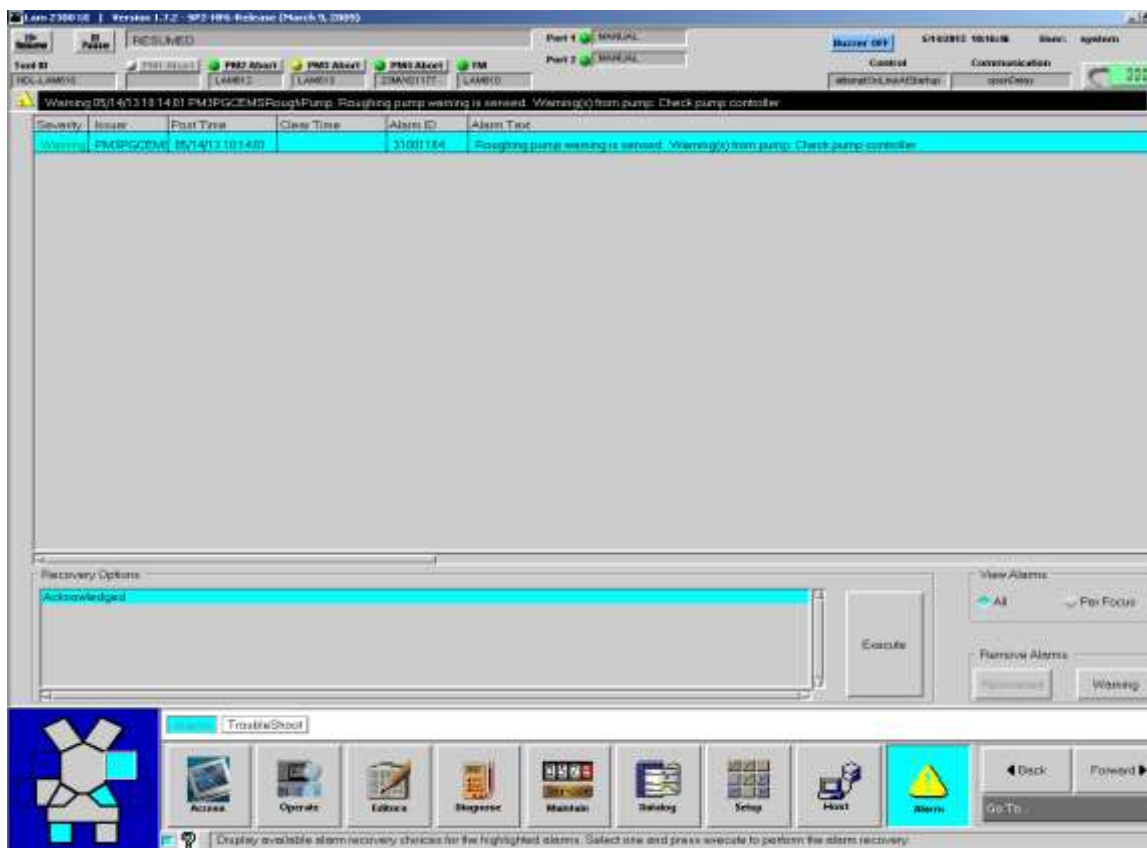

Fig.5: Alarm page
7. When alarm (fig.5), note the error message and contact machine owner.